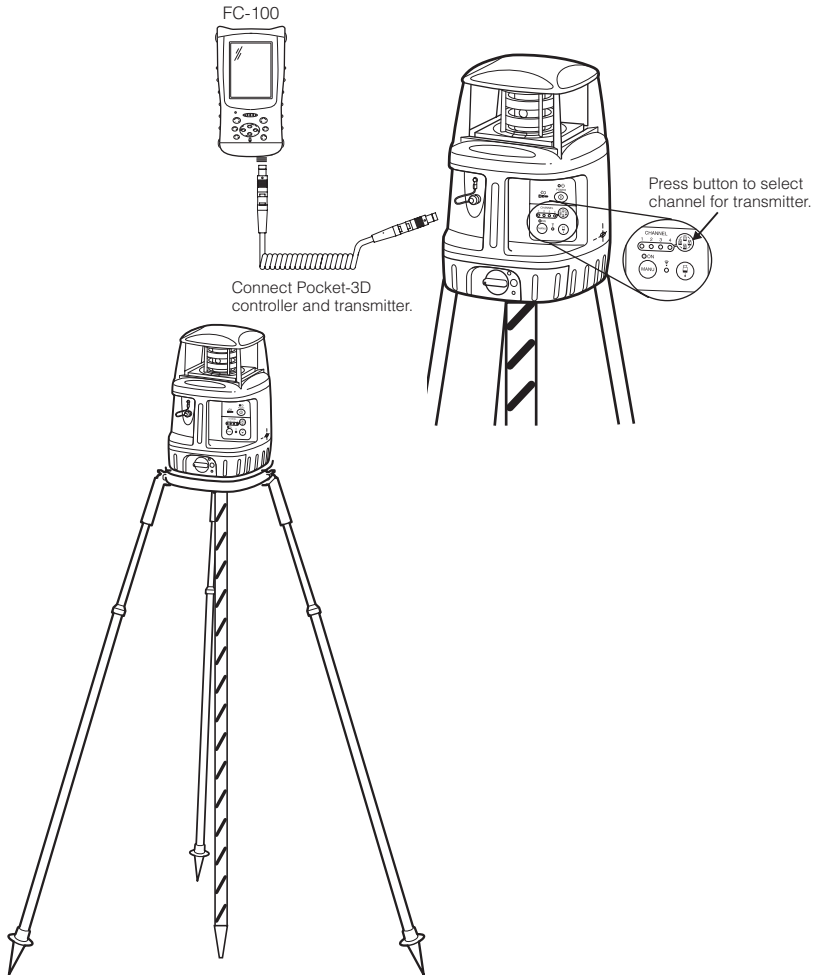

Figure 7-1. Setup PZL-1 Transmitter, Select Channel, and Connect Controller
3. Turn on the transmitter's power and select a channel for the transmitter (Figure 7-1).
4. Connect the transmitter and Pocket-3D controller (Figure 7-1).